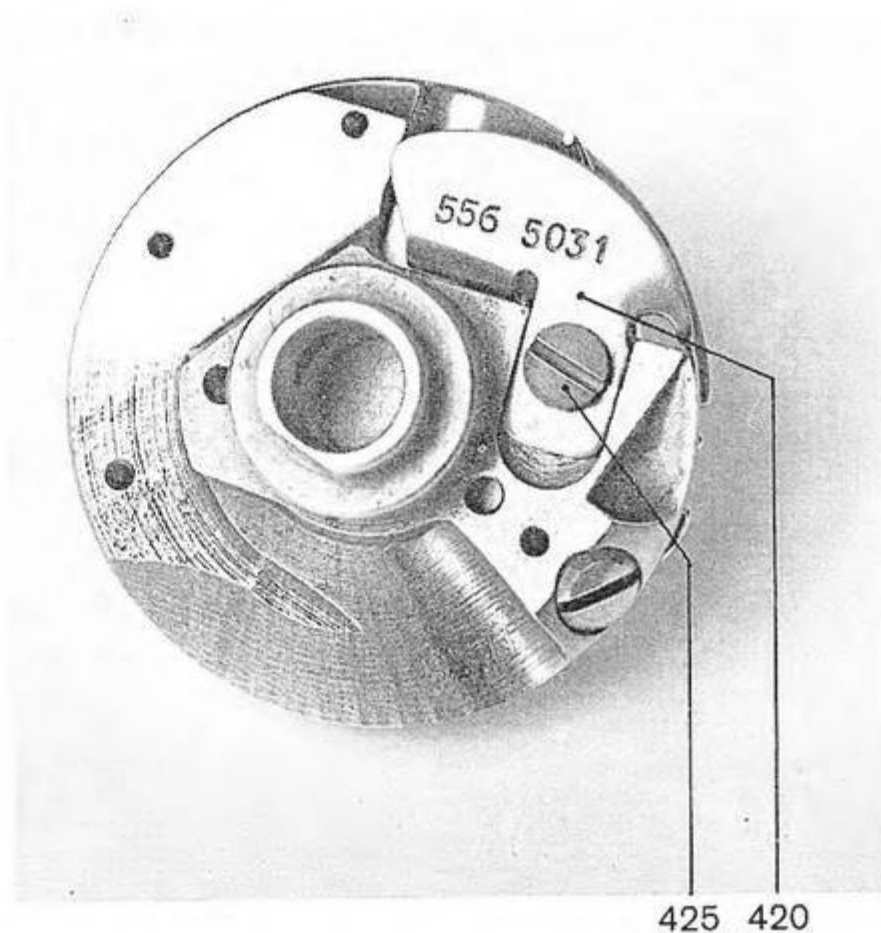

Fig. 101
4. After removing the fastening screw 425 (fig. 101), which is now accessible, the needle guard 420 can be replaced and adjusted.